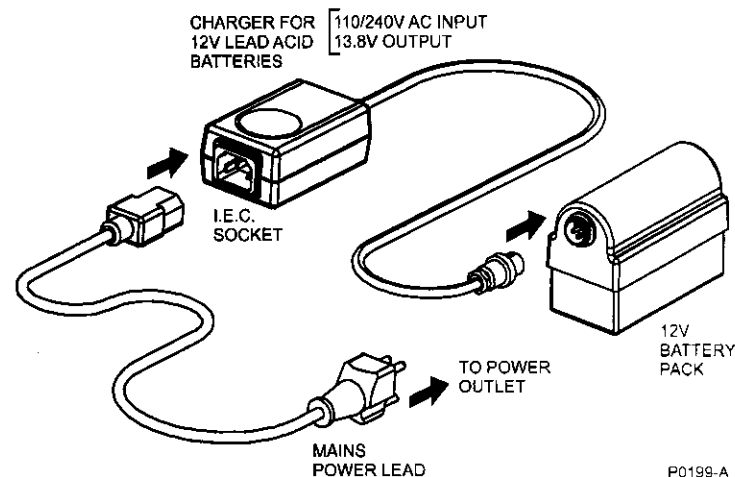

Figure 9 - Relic Hawk Mains Battery Charger Connections
4.5 Mains Battery Charger (see Figure 9)